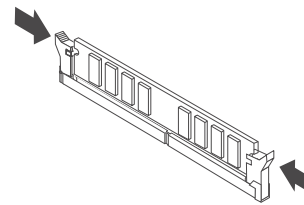

Figure 21. Closing the memory-module retainer clips
**Note:** Be sure the memory-module retainer clips are fully closed. See Figure 21.